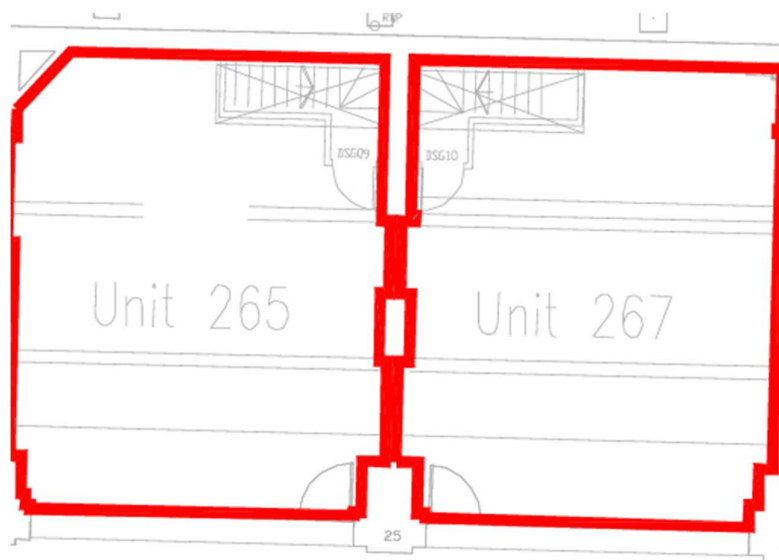

Figure 2. Snapshot from Great Northern Warehouse, Ground Floor Leisure Box Development Car Park Level 2, April 2014
- 2.3 The original stairs within unit No.265 have since been removed (see figures 2 and 3 below) and infilled with timber joist and boarded floor. A modern stair lies between units 263 and 265 forming a protected means of escape route in case of fire (see figure 1).